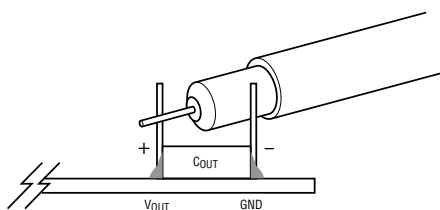

Figure 2. Measuring Input or Output Ripple
**NOTE:** When measuring the input or output voltage ripple, care must be taken to minimize the length of oscilloscope probe ground lead. Measure the input or output voltage ripple by connecting the probe tip directly across the VIN or VOUT and GND terminals as shown in Figure 2.